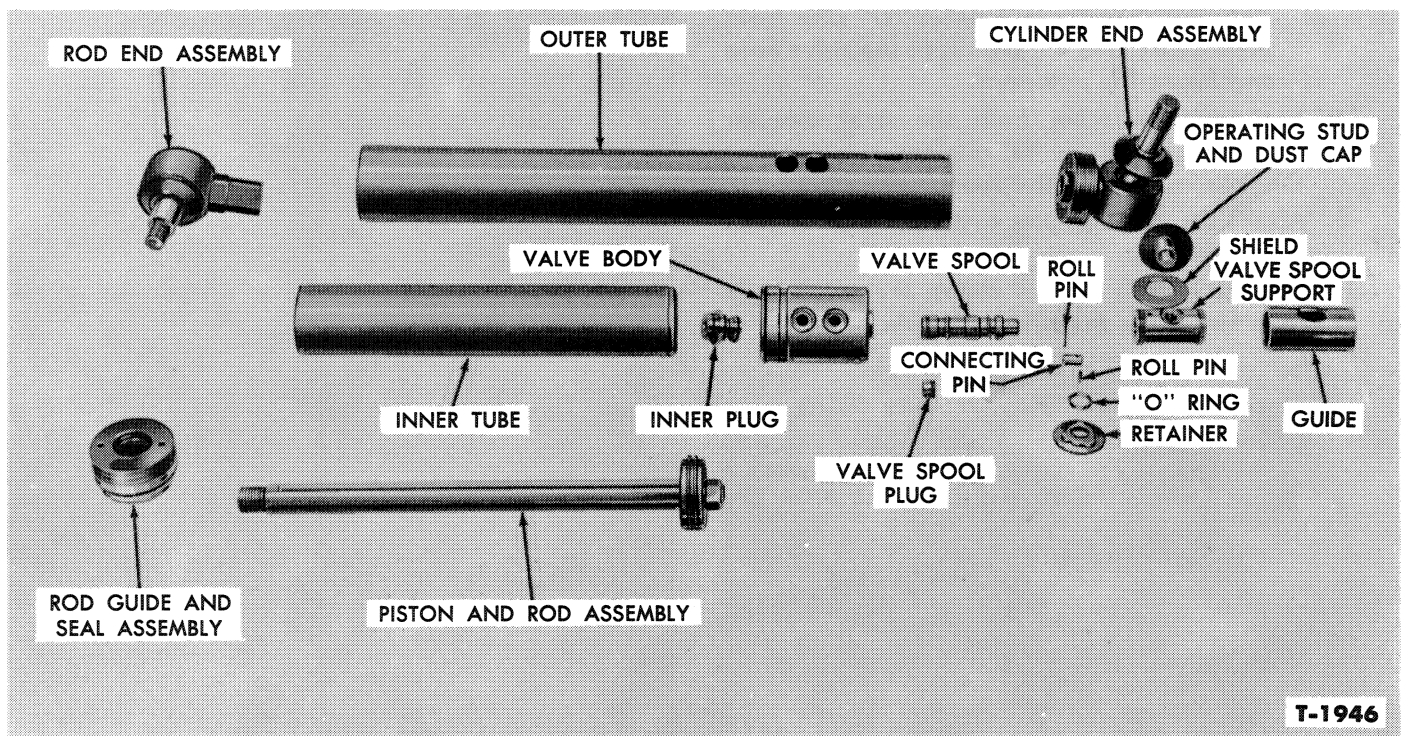
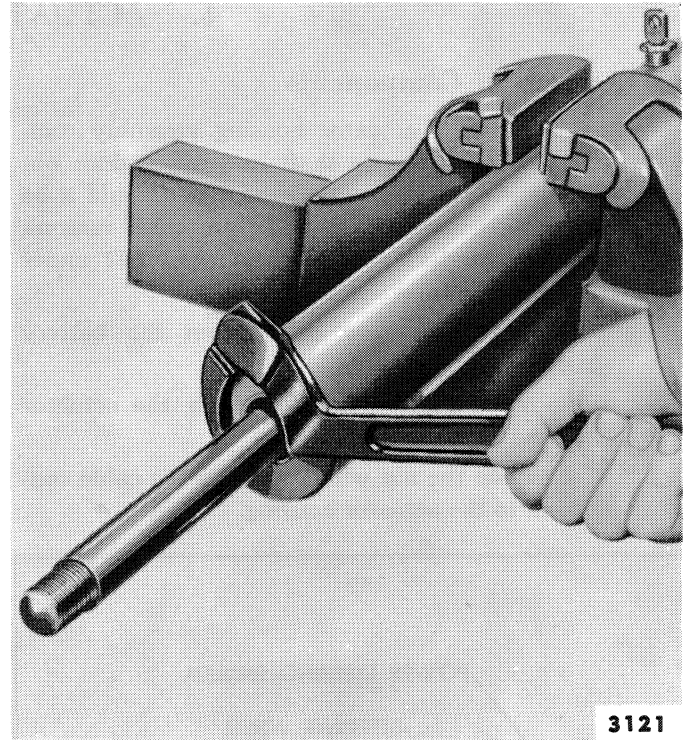

Figure 12—Power Cylinder and Valve End—
Figure 18—Installing Piston Rod Guide Assembly
- Loosen the rod guide and seal assembly, Figure 18, with a pin-type spanner wrench. Unscrew the guide and seal from the outer tube and remove the guide, inner tube, piston and rod, Figure 12.
- Unscrew and remove the cylinder end assembly from the outer tube, Figure 12.
- Remove the inner plug, Figure 12, from the "O" ring end of the valve housing.
20. Thread the rod guide into the outer cylinder and tighten to 200-230 ft. lbs. Use a pin-type spanner wrench, Figure 18.